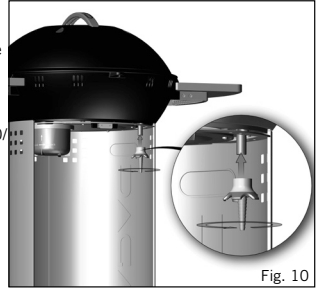

Fig. 10
- **NOTE!** When installing the tailpiece, ensure it is held straight while tightening the tailpiece nut, in order to prevent a possible gas leak. Tighten with a suitable spanner. (Fig. 10)
- I 3B/P (30), I 3B/P (37) and I 3+ (28-30/37) Appliance categories: Fit the valve tailpiece onto the valve by screwing it on in an anti-clockwise direction. Push an approved hose onto the valve tailpiece until it is properly seated. On the other end, attach a suitable low pressure regulator (I3B/P (30) : 30 mbar G30/G31 configurations regulator; I3+(28-30/37): 28–30 mbar G30 regulator or 37 mbar G31 regulator); I3B/P(37): 37 mbar G30/G31 configurations regulators). Again making sure that the hose is well seated. The type of hose used shall comply with the relevant EN standard and local requirement. In South Africa the regulator used must comply with SANS 1537.
- I 3B/P (50) Appliance category: Screw a Hose with the correct threaded fittings on each end, onto the left hand ¼" BSP thread of the Valve. Attach a suitable 50 mbar G30/G31 low-pressure regulator on the other end of the hose. The hose used must comply with DIN 4815 part 2 or equivalent.